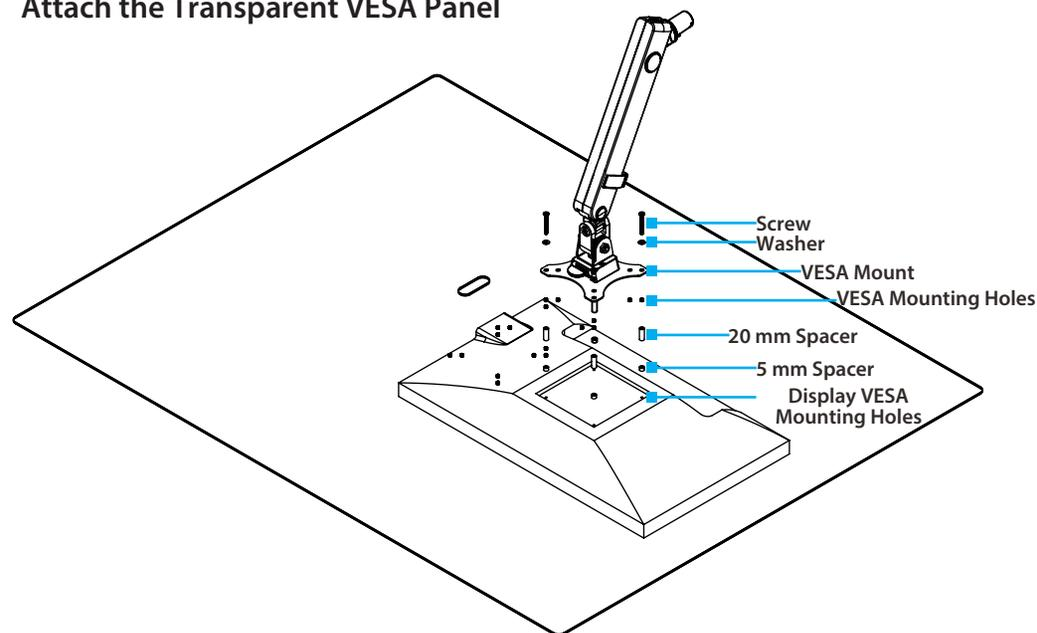

Figure 1
5. (Optional) Place the necessary number of **Spacers** over the four **Display VESA Mounting Holes** on the rear of the **Display**. (Figure 1)